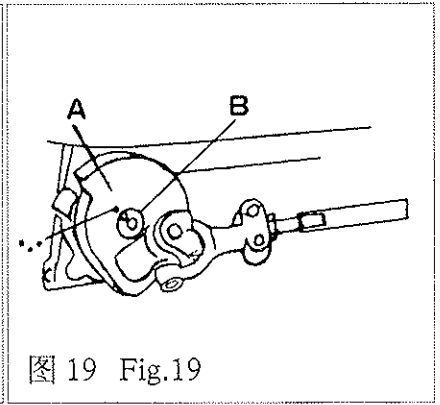

图 19 Fig.19
(1)钩线叉的基本位置 钩线叉的基本位置由钩线叉曲柄“A”与主轴“B”的位置决定。安装时应将曲柄上的圆点“·”标记对准主轴上的“V”形槽中心时,将钩线叉曲柄固定(图19)。
Basic position of thread hook is decided by positions of crank "A" of thread hook and main shaft "B". When the mark "." on the crank coincides with the center of "V" groove on the main shaft, fix the crank of thread hook in place (Fig.19)
③调整钩线叉曲柄上的圆点“·”标记与主轴“V”形槽的相对位置(图 19)对钩线叉的左右位置也有影响。所以调整钩线叉的左右位置,必须根据具体情况,在上述三步骤中仔细选择和反复进行调整,才能达到最佳状态。
(2) Positioning of location for pronged thread hook
③ Adjustment of location of the mark "." on the crank of thread hook in relation to "V" groove on the main shaft (Fig.19) impairs the positioning of the location of the thread hook. Thus microadjustment of the position for thread hook shall be made accordingly. An ideal condition of operation can be acquired only when careful selection and
①运动关系调整 通过调整钩线叉曲柄上圆点“·”标记相当于主轴“V”形槽位置(图19)。
① Adjustment of timing relation by regulating the position of the mark “·” on the crank of thread hook and “V” groove on the main shaft (Fig.19)